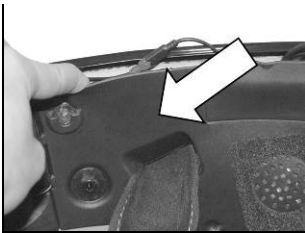

Fig. 19
- Position the wiring and the connectors behind the cheek pad lining, lifting it with the help of a flat head tool (Fig. 19).